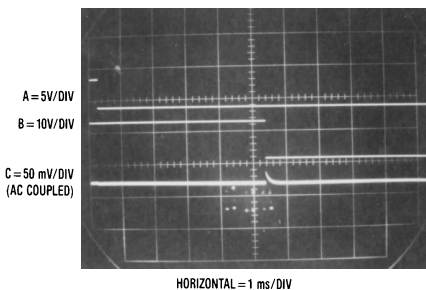

FIGURE 2.
In this circuit, extended hold time is achieved by "stacking" two sample and hold circuits in a chain. In addition, rapid acquisition time is retained by use of a feed-forward path. When a sample command is applied to the circuit (trace A, *Figure 2*), A1 acquires the input very rapidly because its
0.002 μF hold capacitor can charge very quickly. The sample command is also used to trigger the DM74C221 one-shot (trace B, *Figure 2*), which turns on the FET switch, S1. In this fashion, A1's output is fed immediately to the A3 output buffer. During the time the one-shot is high, A2 acquires the value of A1's output. When the one-shot drops low, S1 opens, disconnecting A1's output from A3's input. At this point A2's output is allowed to bias A3's input and the circuit output does not change from A1's initial sampled value. Trace C details what happens when S1 opens. A small glitch, due to charge transfer through the FET, appears but the steady state output value does not change. This circuit will acquire a 10V step in 10 μs to 0.01% with a droop rate of just 30 $\mu\text{V}/\text{second}$.